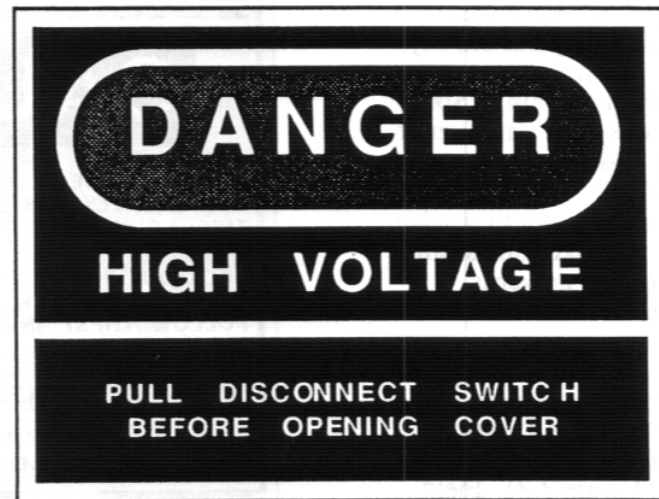
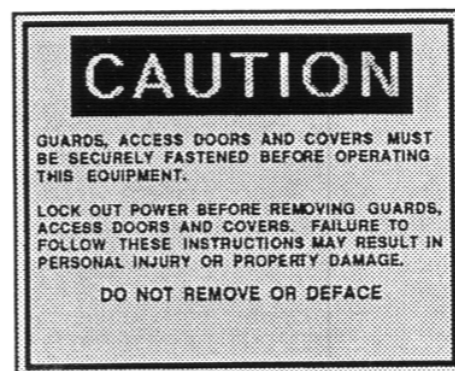

Figure 2-1 Warning Labels On The Control Panel
Figure 2-4 Typical Warning Labels On Screw Conveyor Covers And/Or Belt Pulley Guards
Warning labels attached to the control panel, above the ice discharge, and on access panels should be followed. They are shown in Figure 2-1, Figure 2-2, and Figure 2-3. Figure 2-4 shows typical labels for use on screw conveyor covers and belt guards.
3. Figure 2-4 illustrates typical safety labels for use on screw conveyor covers and/or belt guards. Warning labels such as these should be furnished by the supplier of such equipment, and properly installed.